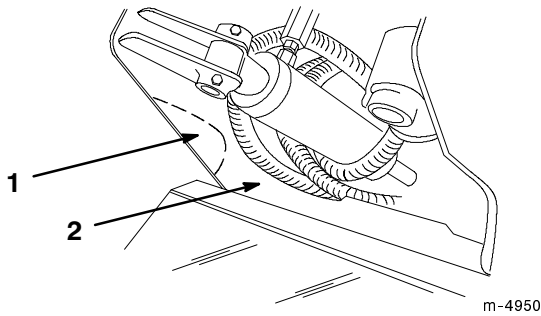

Figure 2
2. Push and secure the hydraulic hoses in the internal compartments up and into the backhoe, away from the area to be cut (Fig. 2).